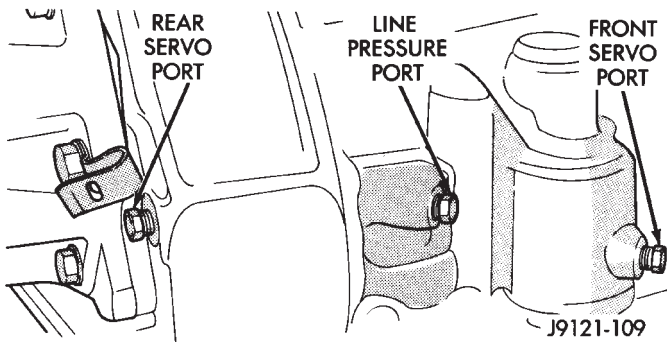
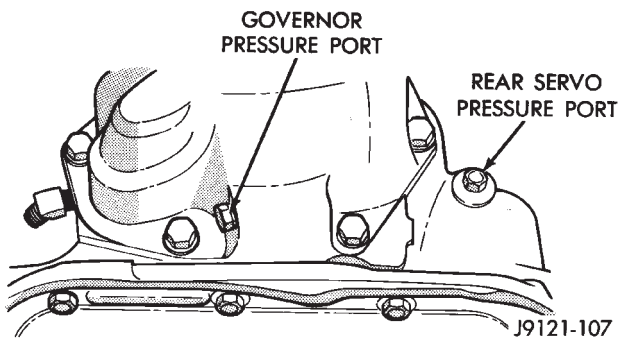
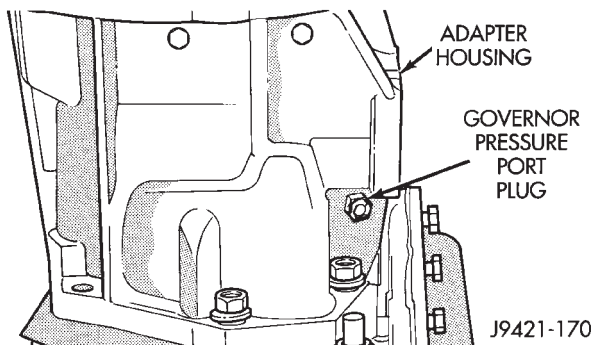

Fig. 6 Pressure Test Ports At Side Of Case
Fig. 7 Pressure Test Ports At Rear Of Case—2WD
Fig. 8 Pressure Test Ports At Rear Of Case—4WD
Pressure test ports locations are provided at the accumulator, front servo, and rear servo, governor passage, and overdrive clutch pressure passage (Fig. 6), (Fig. 7) and (Fig. 8).
- (1) Connect 100 psi Gauge C-3292 to accumulator port.
- (2) Connect 300 psi Gauge C-3293-SP to rear servo port (Fig. 6) and (Fig. 7).
- (3) Disconnect throttle and gearshift rods from manual and throttle levers.
- (4) Start and run engine at 1000 rpm.
- (5) Move shift lever (on manual lever shaft) all the way forward into 1 range.
- (6) Move transmission throttle lever from full forward to full rearward position and note pressures on both gauges.
- (7) Line pressure at accumulator port should be 54-60 psi (372-414 kPa) with throttle lever forward and gradually increase to 90-96 psi (621-662 kPa) as lever is moved rearward.
- (8) Rear servo pressure should be same as line pressure within 3 psi (20.68 kPa).
- (1) Connect test gauge to accumulator pressure port (Fig. 6) and (Fig. 7).
- (2) Start and run engine at 1000 rpm.
- (3) Move shift lever on valve body manual lever shaft, one detent rearward from full forward position. This is 2 range.
- (4) Move transmission throttle lever from full forward to full rearward position and read pressure at both gauges.
- (5) Line pressure should be 54-60 psi (372-414 kPa) with throttle lever forward and gradually increase to 90-96 psi (621-662 kPa) as lever is moved rearward.
- (1) Connect test gauges to accumulator and front servo ports (Fig. 6) and (Fig. 7). Use either test gauge at the two ports.
- (2) Start and run engine at 1600 rpm for this test.
- (3) Move selector lever to D range. This is two detents rearward from full forward position.
- (4) Read pressures on both gauges as transmission throttle lever is moved from full forward to full rearward position.
(1) Connect 300 psi gauge to rear servo port (Fig. 6) and (Fig. 7).
(2) Start and run engine at 1600 rpm for test.
(3) Move valve body selector lever four detents rearward from the full forward position. This is Reverse range.
(4) Move throttle lever all way forward then all way rearward and note gauge readings.
(5) Pressure should be 145 - 175 psi (1000-1207 kPa) with lever forward and increase to 230 - 280 psi (1586-1931 kPa) as lever is moved rearward.
(1) Connect 100 psi Test Gauge C-3292 to governor pressure port (Fig. 6) and (Fig. 7).
(2) Move shift lever to D range.
(3) Start and run engine at curb idle speed and note pressure. At idle and with vehicle stopped, pressure should be zero to 1.5 psi maximum. If pressure exceeds this figure, governor valve or weights are sticking open.
(4) Slowly increase engine speed and observe speedometer and pressure test gauge. Governor pressure should increase in proportion to vehicle speed.
(5) Pressure rise should be smooth and drop back to 0 to 1.5 psi when wheels stop rotating.